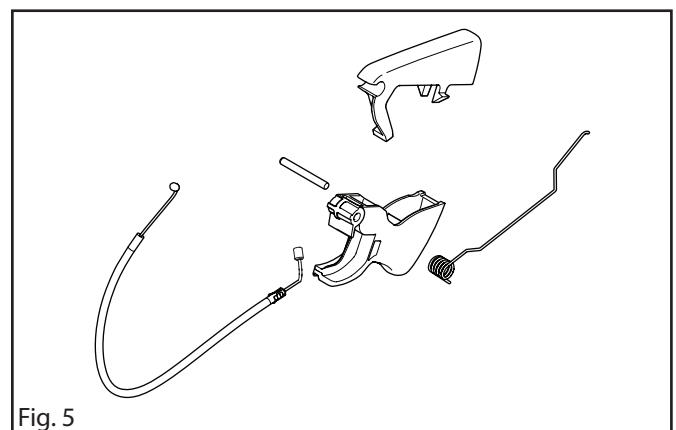

Fig. 5
- Carefully clean and inspect all parts. See figure 5. Parts must be replaced if cracked or if they show signs of other defects. Always use original spare parts.
**NOTE!** Figure 5 shows which end of the throttle cable to push through the rubber bellow and which end to attach to the throttle trigger.